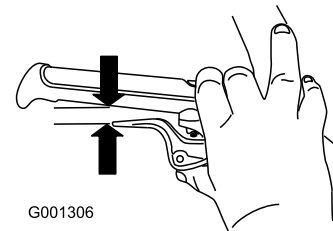

Figure 10
5. Squeeze the lever fully, then check the gap between the bottom of the handle and the wheel clutch lever end (Figure 10).